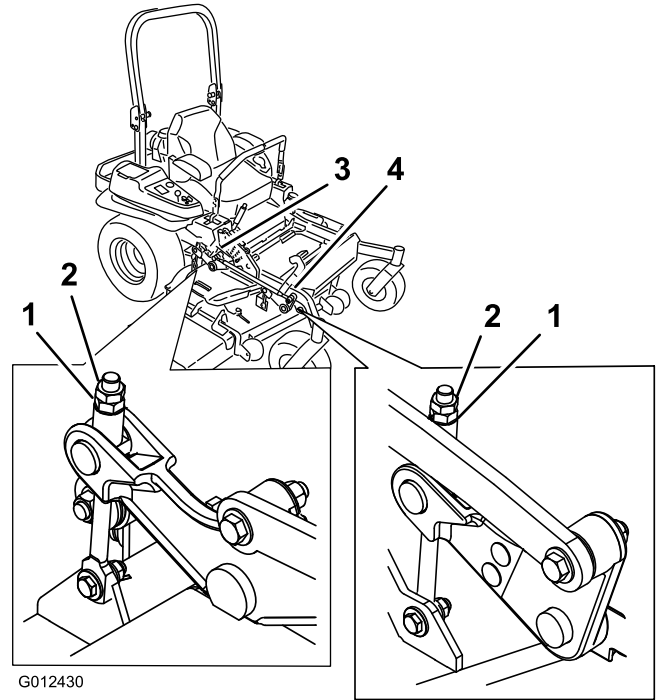

Figure 88
10. Fine-tune the adjustment nut on the front deck lift assembly by turning it (Figure 88).
- Fine-tune the adjustment nut on the front deck lift assembly by turning it (Figure 88).